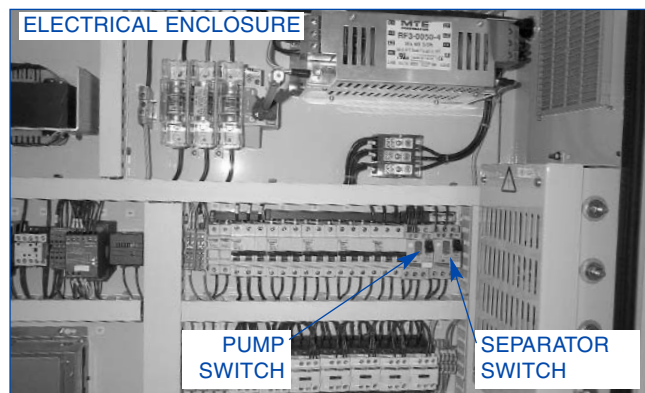

FIGURE 1-12, Coolant Disconnect
- Turn ON Magnetic Separator Disconnect, located inside Electrical Enclosure (see *Figure 1-12*).